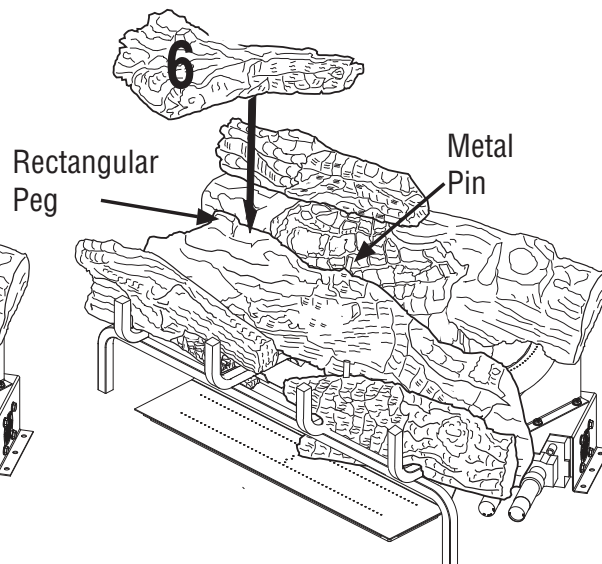

Figure 42 - Installing Log # 6
6. Place the left top forked log (#6) on the top of the middle log (#2). Match the rectangular projection on top of the middle log (#2) with the rectangular hole on the bottom of the left top forked log (#6). Match the metal pin on the top of the middle log (#2) with the round hold in the bottom of the left top forked log (#6). See **Figure 42**.